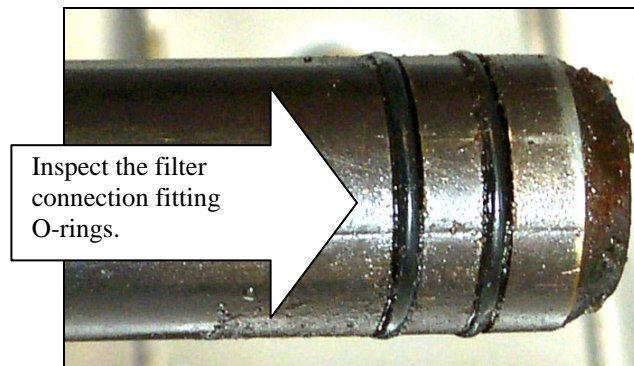

Figure 2
2. Inspect the filter pan connection fitting to ensure that both o-rings are in good condition. (See Figure 2)